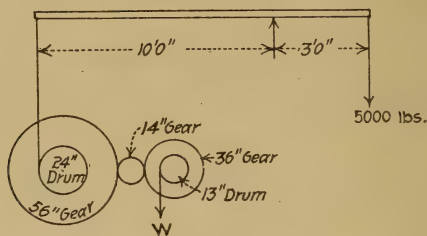

FIG. 4.
10. What weight "W" is necessary to balance the load of 5000 lb. (Fig. 4)?